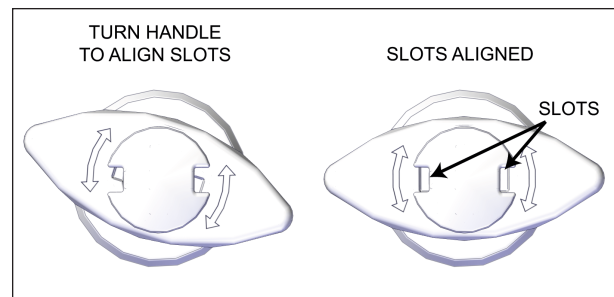

FIGURE 104: ALIGN THE SLOTS
2. Turn the red handle left or right to align the slots located in the center part of the handle, see Figure 104.